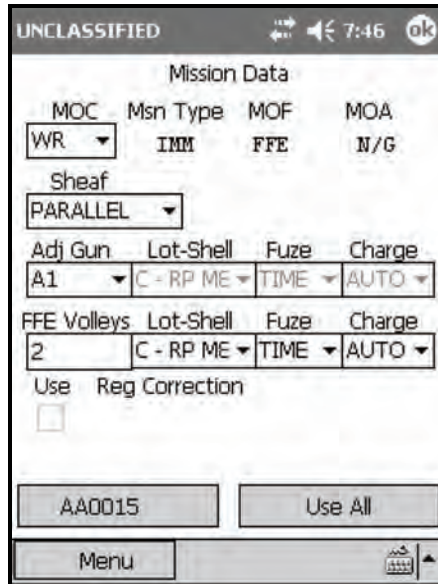

Figure 18-83. Immediate Smoke: Mission Data screen.
- (5) Select Use All.
- (6) The Mission Data screen displays with a default FFE Volleys of 2 rounds. The Lot-Shell will default to RP/WP (Figure 18-83).